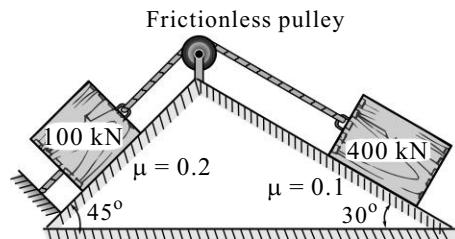

Fig. 8.E12
13. A 2.04 kg block A and a 3.06 kg block B are supported by an inclined plane, which is held in position shown in Fig. 8.E13. Knowing that the coefficient of friction is 0.15 between the two blocks and zero between block B and the incline, determine the value of θ for which motion is impending.